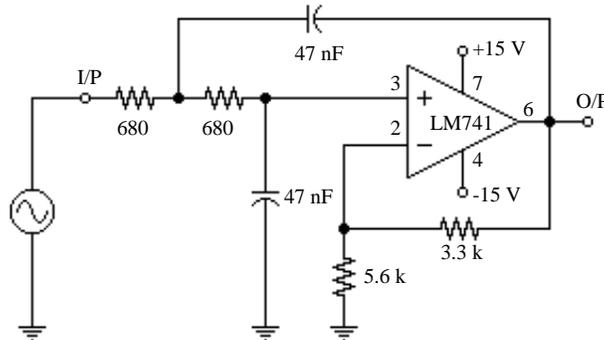

Figure 0-4. Low Pass Circuit
1. You may be required to build either the circuit of Figure 0-4 or the circuit which you designed in the Lab Preparation section. Ask your instructor which circuit you are to build.
2. Apply appropriate voltages to the input of the circuit of Figure 0-4 so as to complete the measurements of Table 0-2. Be sure the op amp output is not overdriven.